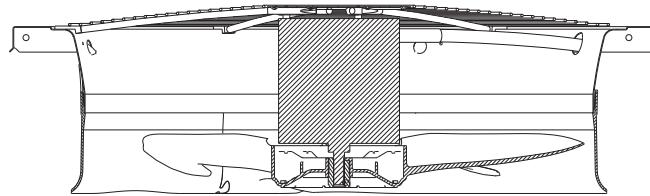

Fig. 30 — Condenser Fan Adjustment
2. Remove condenser-fan assembly (grille, motor, and fan) (see Fig. 30).